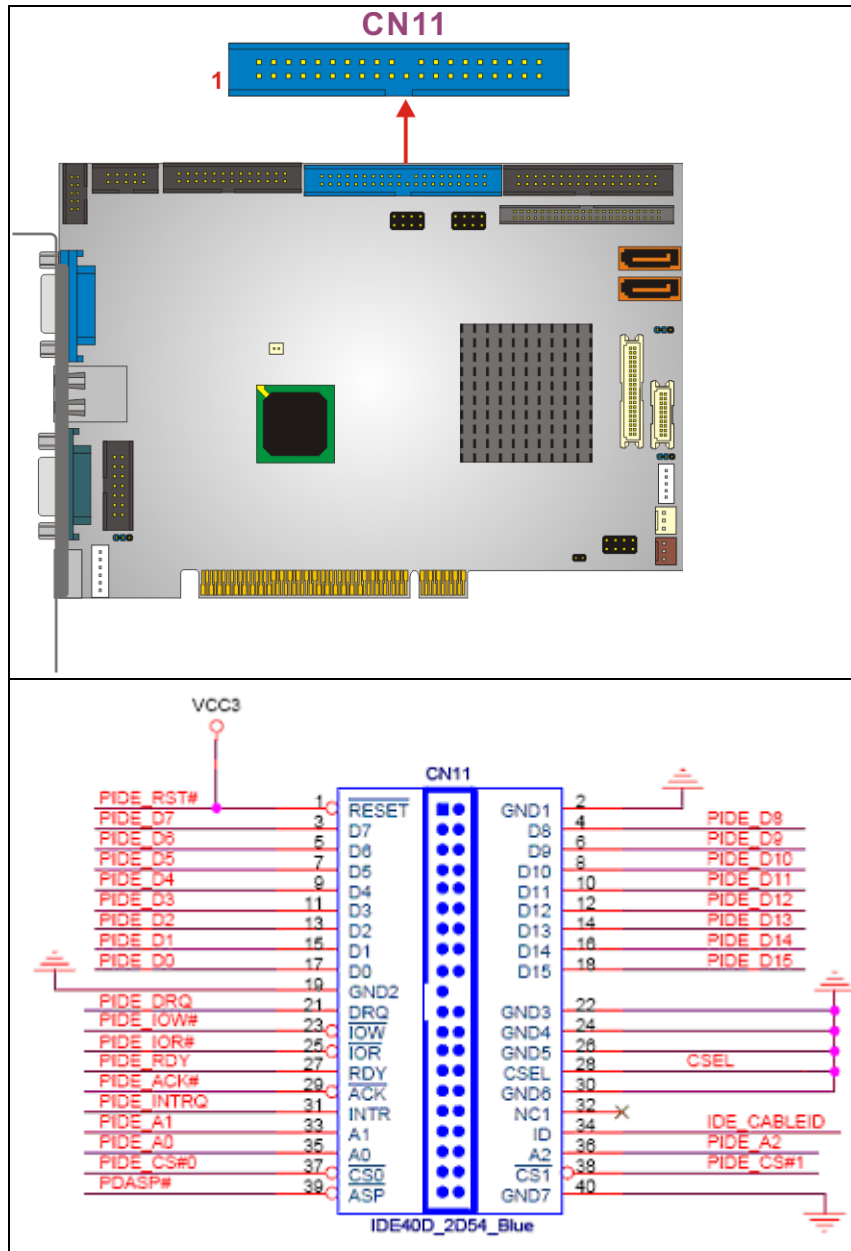

Figure 3-10: Primary IDE Device Connector Locations
**CN Location:** See Figure 3-10